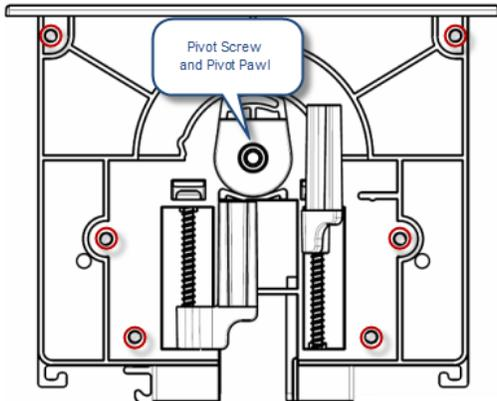

FIG. 5 HYDRAPORT BASE ASSEMBLY (SHOWN MOUNTED) - MOUNTING/PIVOT SCREW LOCATIONS
1. Remove the (silver) pivot screw and pivot pawl assembly in the center of the End Cap (FIG. 5).
3. Secure the End Cap with the six (black) sheet metal screws (removed in Step 2 - 2; see FIG. 5).
4. Replace the (silver) pivot screw and pivot pawl assembly (removed in Step 2 - 1, see FIG. 5) in the center of the End Cap.